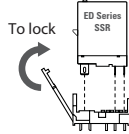

fig. 2 PCBSED Socket Mounting
- Insert ED Series SSR into PCBSED socket observing terminals' orientation (fig. 2).
- To retrieve the ED Series SSR from socket, first unlock latching mechanism, as shown in fig.2, then gently pull the SSR.